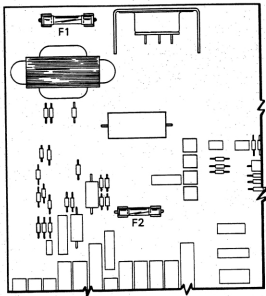

Figure 6-1. Model 464, Fuse Location
6.8.1 The line and current fuses are mounted inside fuseholders on the main P.C. Board as shown in Figure 6-1. Use the following procedure to replace a fuse.